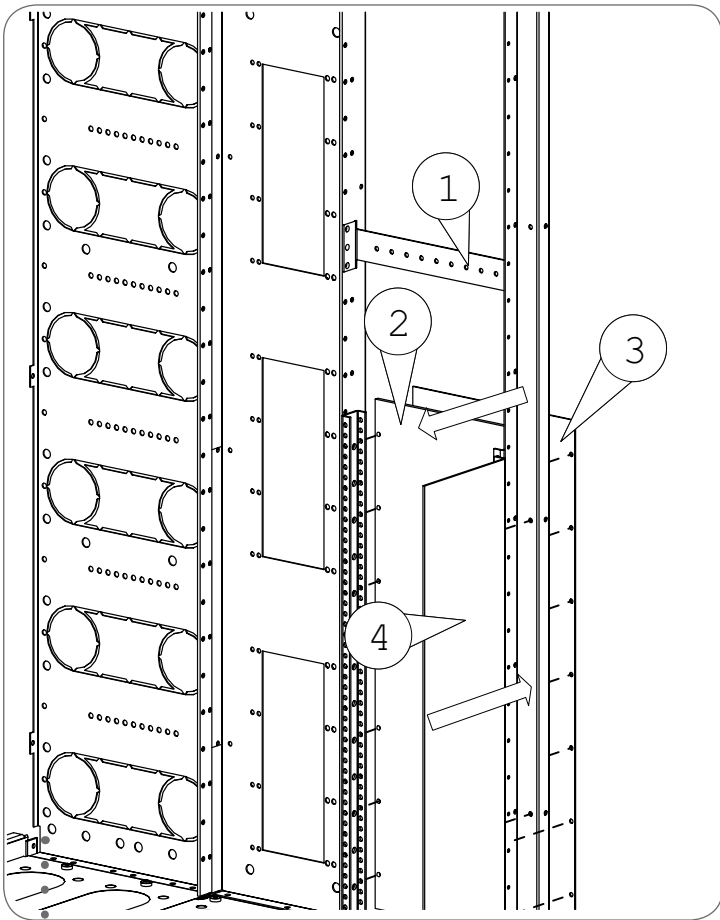
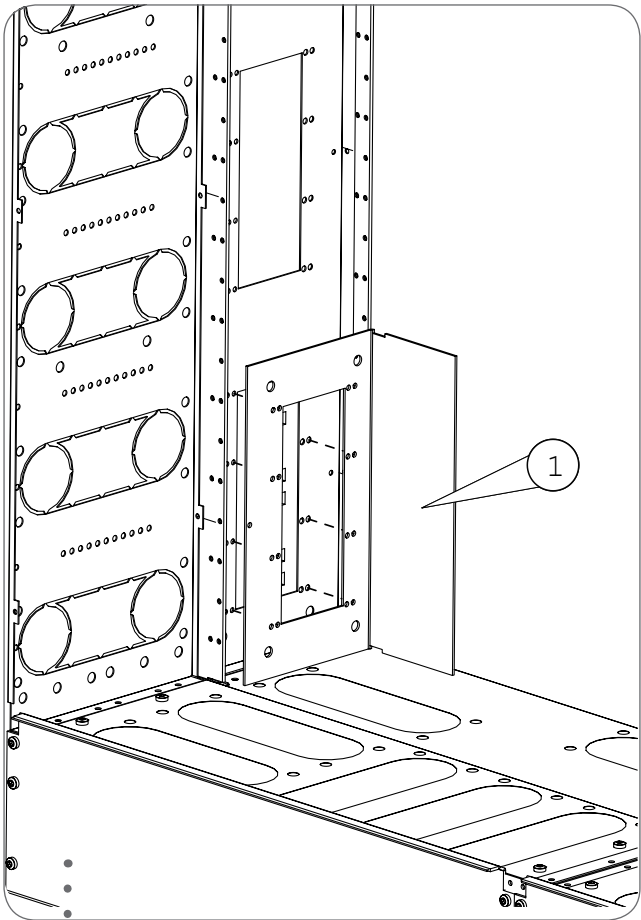

Fig. 2.23. Installing flash barrier parts to E-series cell centres.
Fig. 2.24. Installing flash barrier in E-series light cell centre.
The structure of E-serie cell centres is protected against damage caused by short circuit through electric arc by inserting flash barriers into corner profiles (Fig. 2.23). The ends of the busbar system are insulated from the frame using end insulators (2) made of polycarbonate and fastened with screws to support insulator holders together with metallic end flash barriers (3). The back wall of the cell centre is protected using flash barriers for back panel (4). Intermediate supports (1) are fastened between back profile and frame plate at suitable distances (e.g. 420 mm). Installation of the above parts is shown in Fig. 2.23.
In E-serie light cell centres you need to install flash barriers (1) in addition to end flash barriers (Fig. 2.23, part 4). The flash barriers are fastened together with support insulators and end flash barriers to the frame plate using long plate screws (4,8x25mm). Fig. 2.24 shows installation of flash barrier.